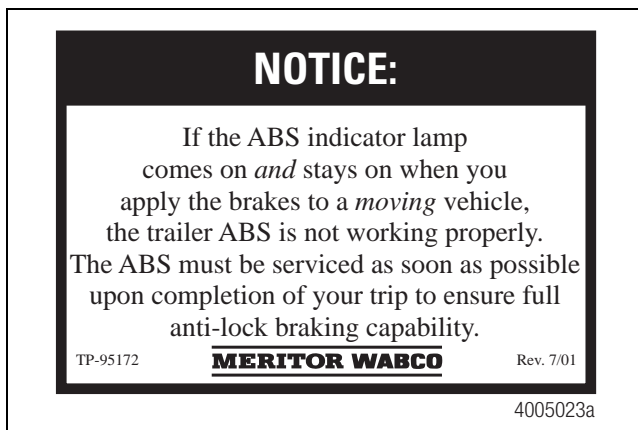

Figure 30
1. Affix the ABS indicator label to the trailer. The label should be on the side of the trailer near the ABS indicator lamp. Figure 30.